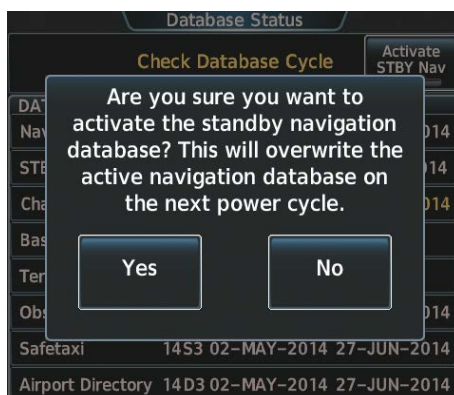

Figure B-9 Update Active Prompt
- 3) A prompt similar to Figure B-9 is displayed, touch **Yes** to overwrite the Active Navigation Database with the Standby Navigation Database. Touch **No** to cancel.